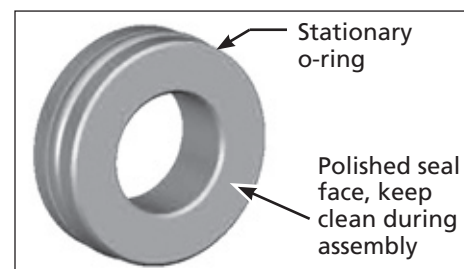

Figure 8
- Obtain a new mechanical seal rotating assembly and seat (reference numbers 8a and 8b on page 11). Seal parts must be replaced as a set. Do not mix old and new parts. Lubricate seal stationary o-ring with a very small amount of dish soap. Do not allow soap, dirt, grease, or any contaminate on the polished seal face (see Figure 8).